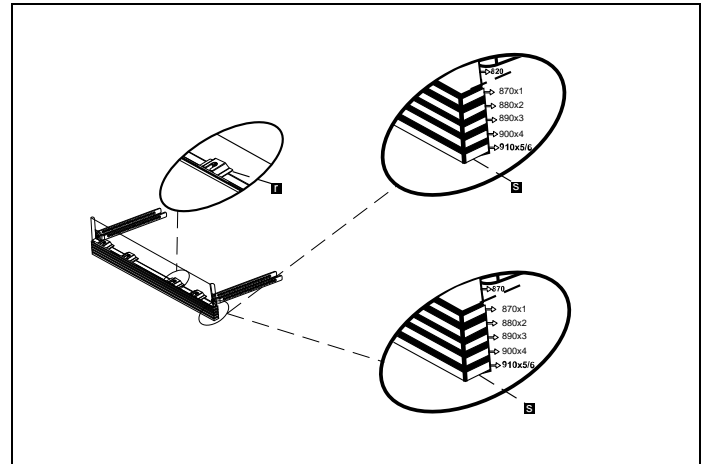

Fig. 22
- 3) As shown in Fig. 22, the cylindrical feet of the adjustable plinth are attached to the plinth fixing metal parts and inserted through the cavity of the part.